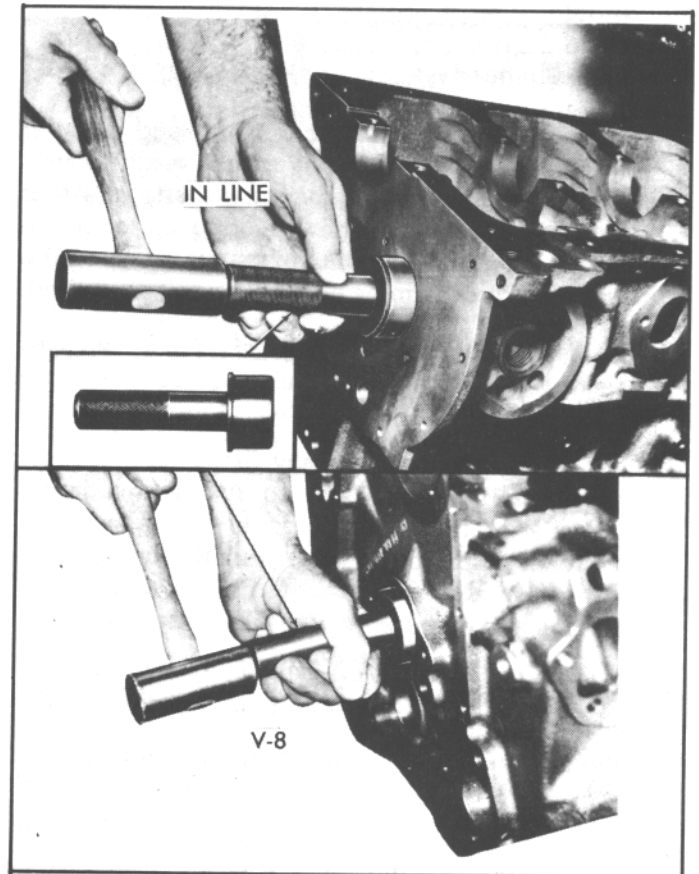

Fig. 90. Replacing Camshaft Front Bearing
1. Assemble remover and installer tool on driver handle and install camshaft front and rear bearings by driving toward center of cylinder block (Fig. 90).